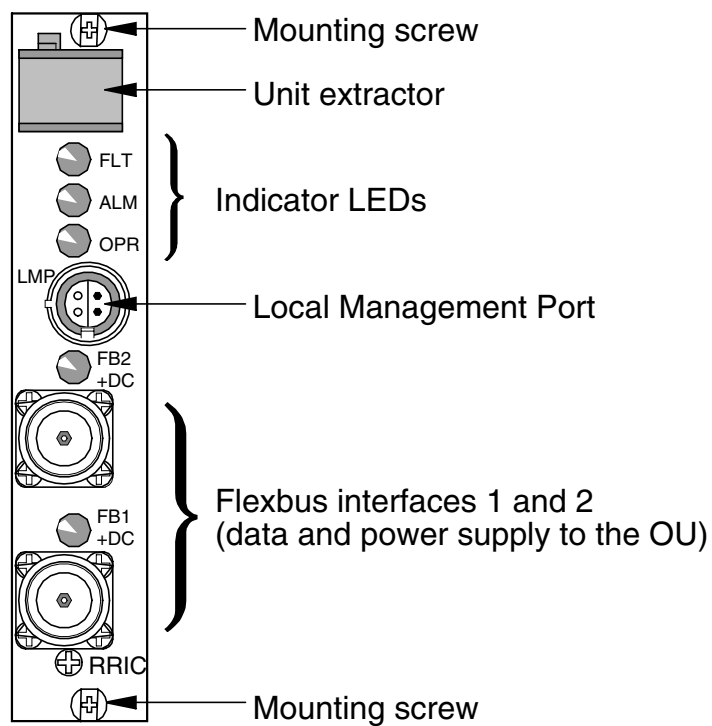

Figure 1. RRIC
- Figure 1. RRIC **12**
RRIC has the following items marked on the front panel (Figure 1):